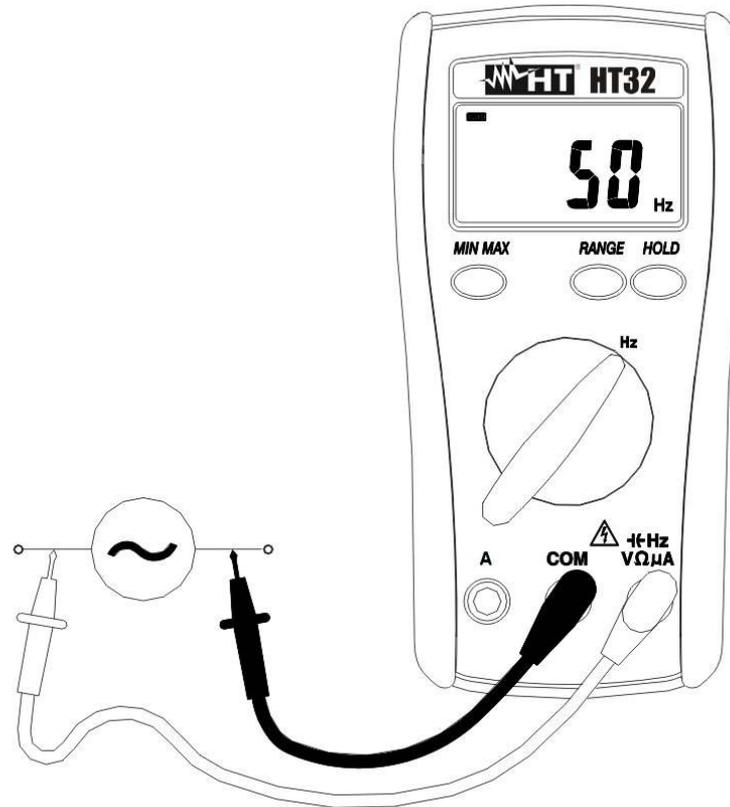

Fig. 6: Frequency measurement
2. Insert the test leads into the jacks, the red plug into $\text{HzV}\Omega\mu\text{A}$ jack and the black plug into **COM** jack (Fig. 6).